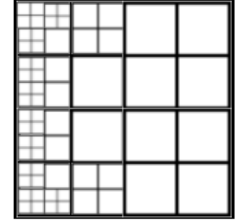

Figure 5.6: Adaptive Refinement.
- **Number of Refinements:** This parameter is used to define the number of times the mesh will be refined. The minimum value is one, i.e., only the original mesh is solved. At each adaptive refinement level, either all the cells (global) or 30% of the cells with largest error (computed using an error estimator; adaptive) are split into four. The process is repeated at each refinement level. An example of mesh that is refined globally several times and an adaptively refined mesh is shown in Figure 5.6.